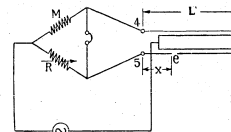

FIG 12
- (1) Connect the open wire to post X_2 and a good wire of equal gauge and length in the same cable to X_1 , and strap them together at the distant end of the cable. Join the mates of these wires at both end. All wires must be free from grounds and crosses. Connect one terminal of source of A.C. to the -BA post and the other terminal to the near end of the joined mates. Set ratio plug at M1000, M100, or M10. Set lever switch at MUR. Depress keys-6 & 7 and balance bridge by varying the rheostat for silence or minimum tone in headphone. (Fig. 12)